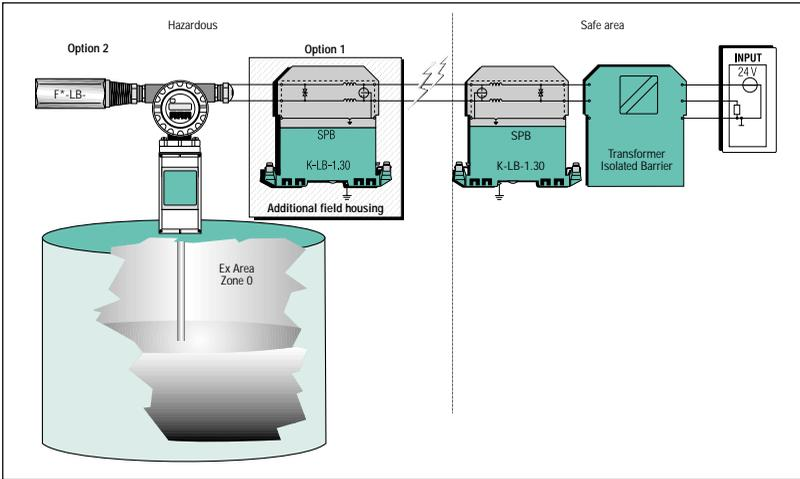

Figure 18a: Ex application with TIB or RPI, K-LB-\* SPBs
- For the protection of the transmitter and the TIB, two isolated SPBs are integrated into the intrinsically safe loop (see Figure 18a: Ex application with TIB or RPI, K-LB-\* SPBs). The main advantage of this isolated SPB solution is that the entire galvanically isolated measurement loop is isolated 500 V from earth, which is in accordance to the intrinsically safe (IS) Entity concept.